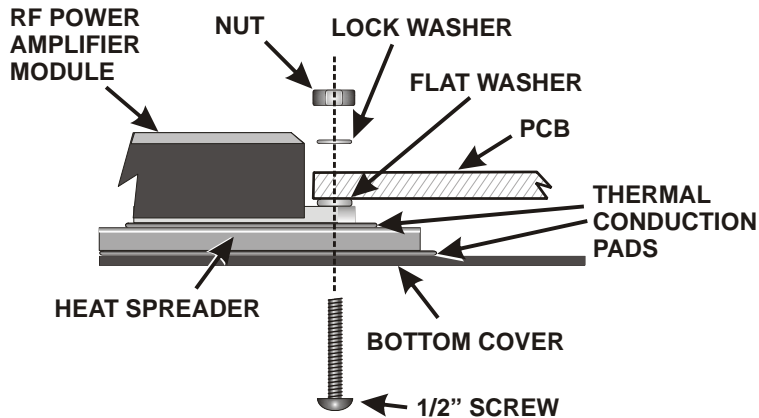

Figure 14. RF Module Mounting Hardware.
Carefully lift the bottom cover off of the transverter. The two long screws that secure the RF power module should come out with the bottom cover. Be careful not to disturb the flat washers between the RF amplifier module and the PCB. If one does slip out of place, reposition it. The correct hardware placement is shown in Figure 14.
Tighten the nuts at each end of the RF module. Inspect the RF module to ensure that both flat washers are between the module and bottom of the PCB (see Figure 14). Remove the cabinet side panel, if necessary, to get a clear view of the RF module mounting hardware.
- Carefully lift the bottom cover off of the transverter. The two long screws that secure the RF power module should come out with the bottom cover. Be careful not to disturb the flat washers between the RF amplifier module and the PCB. If one does slip out of place, reposition it (See Figure 14).
- Tighten the nuts at each end of the RF module. Inspect the RF module to ensure that both flat washers are between the module and bottom of the PCB (See Figure 14). Remove the cabinet side panel, if necessary, to get a clear view of the RF module hardware.